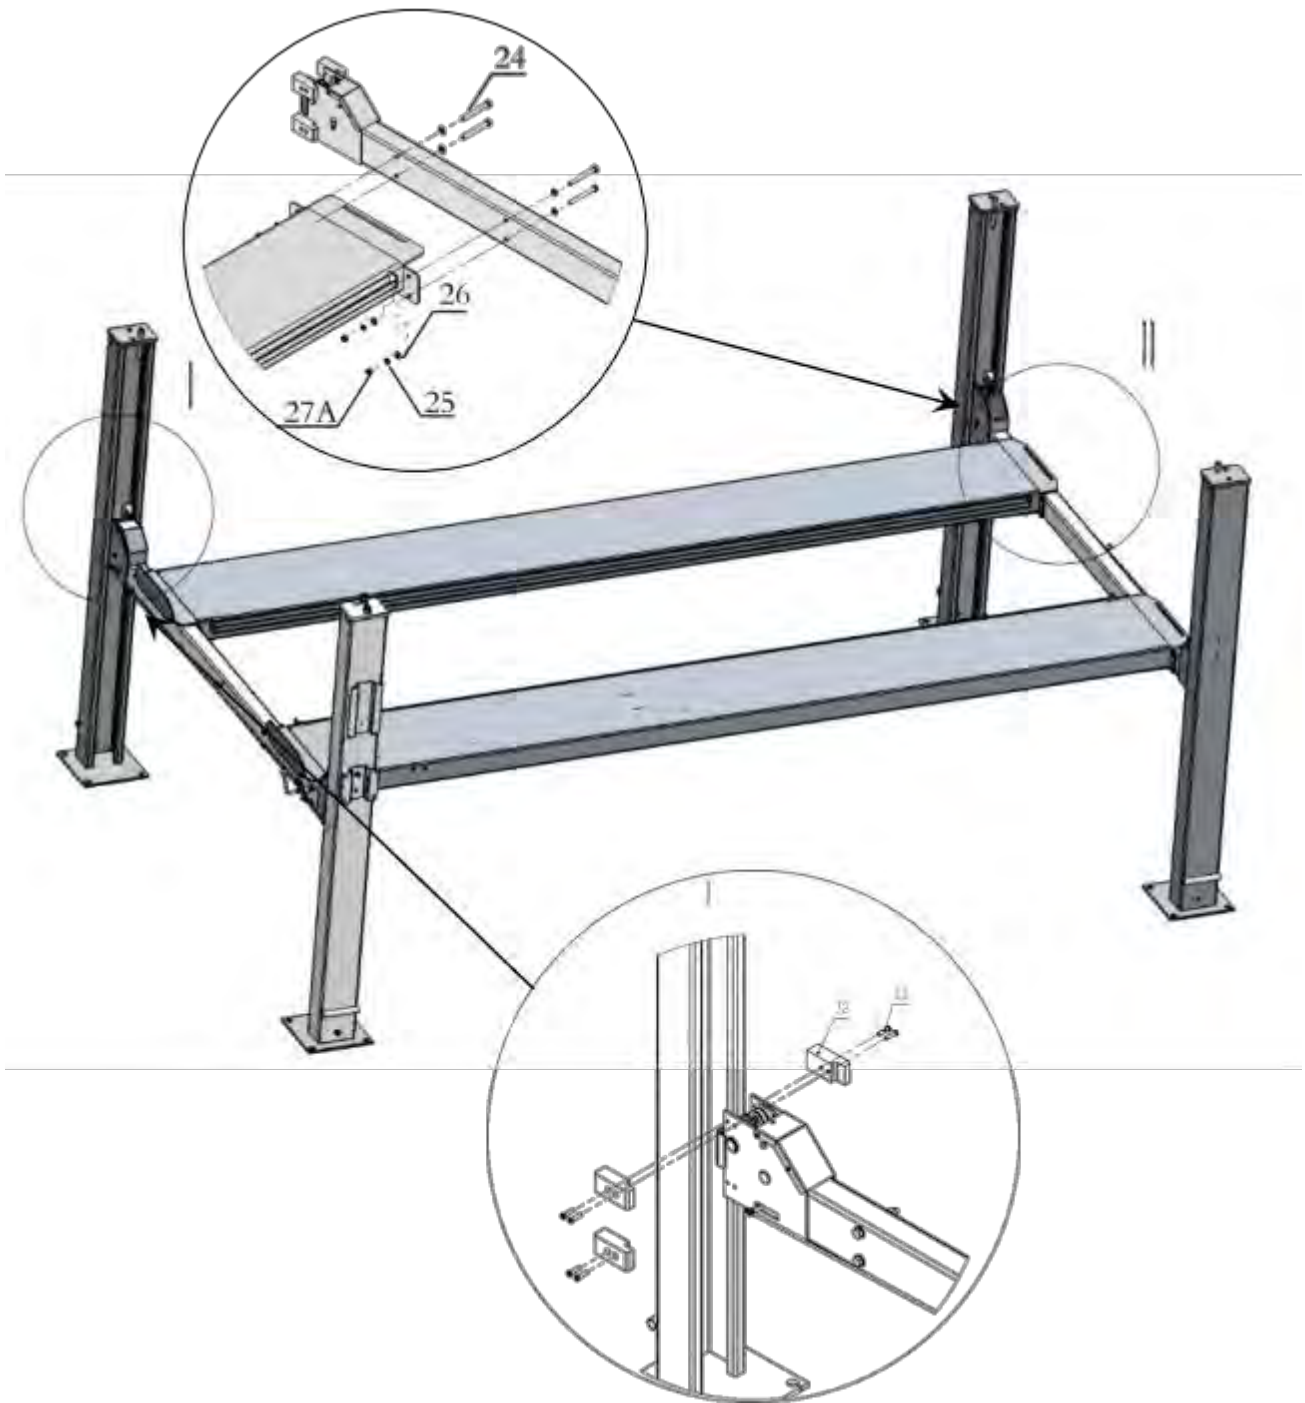

Fig.18
G. Install the offside platform and limit slide block, and platform strengthen bolts. Check the verticality of columns with level bar and adjust with shims. (See Fig. 18)